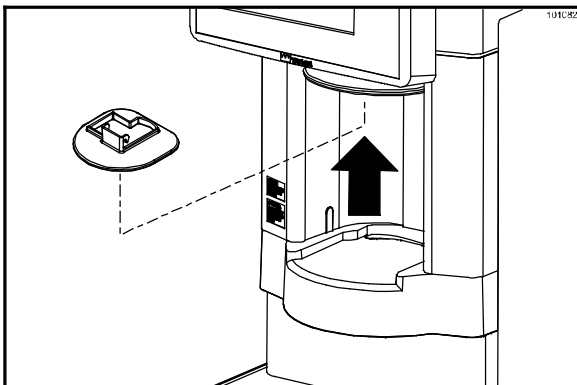

Figure 149
- Reinstall the splash guard. (See Figure 149.)